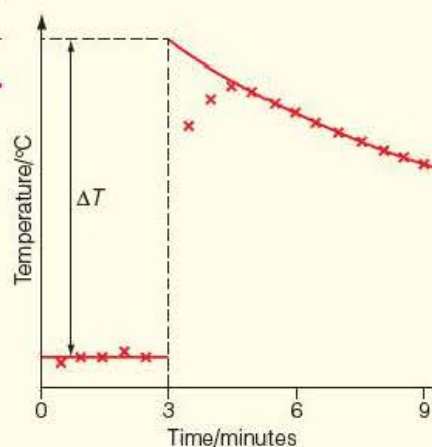

Figure 2.12 Estimating the maximum temperature of the mixture when zinc reacts with copper(II) sulfate solution.
- Extrapolate the graph backwards from 9 minutes to 3 minutes, as in Figure 2.12, in order to estimate the maximum temperature. This assumes that all the zinc reacted at once and there was no loss of heat to the surroundings.